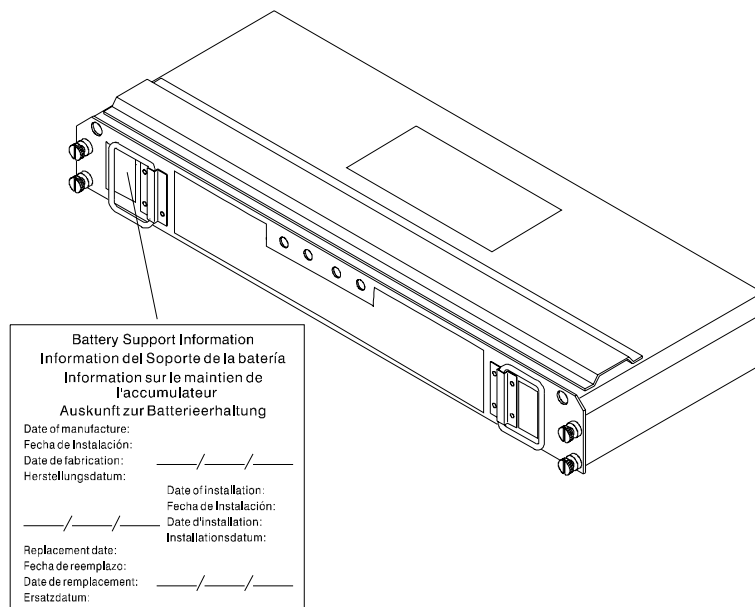

Figure 36. Recording the battery support information
- The service label on the battery provides a blank line for recording the date on which the battery was last serviced (see Figure 36 on page 38). Check this label to determine when to replace the battery. For information about using the software to track battery age, refer to the IBM FAST Storage Manager documentation and online help.
6. Find the "Battery Support Information" label on the front of the new battery CRU, as shown in Figure 36.